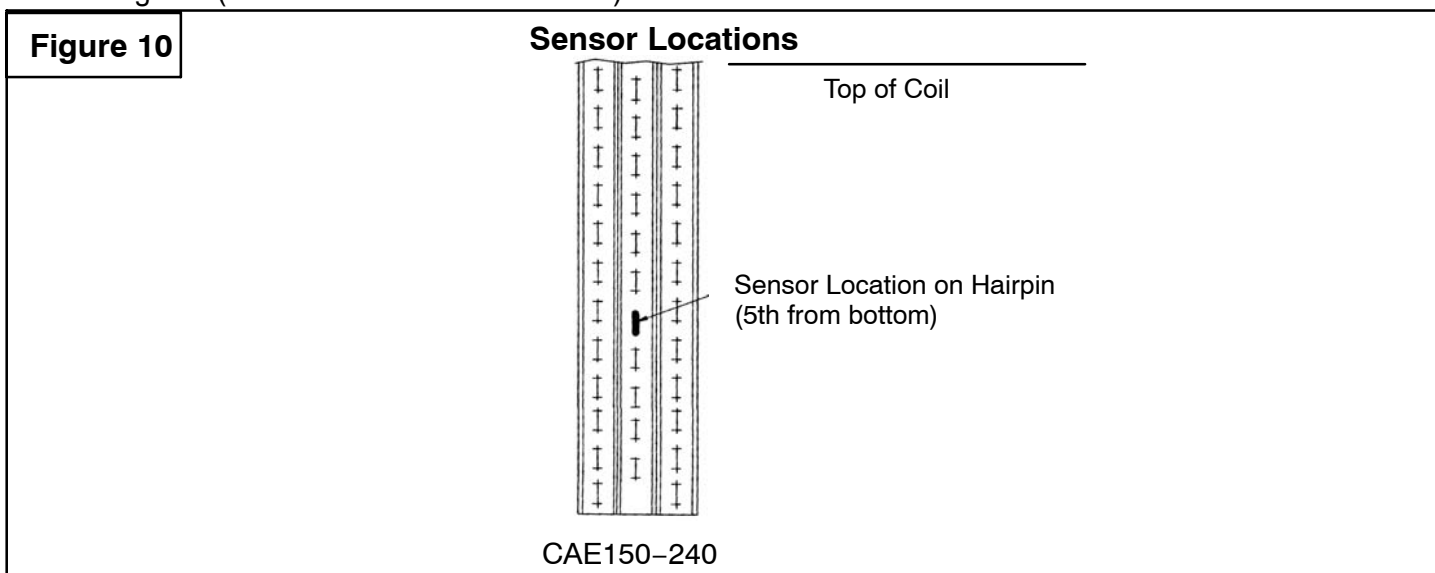

Figure 11
5. Rewire the motor connections as shown in Fig. 11 for CAE150-240 units. Two wirenuts are included in package, if needed.